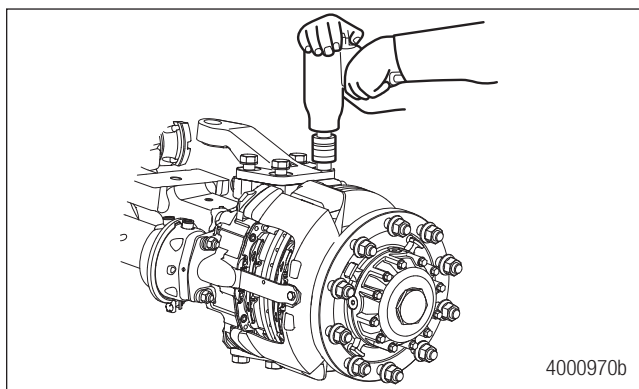

Figure 14.8
10. Now that both the lower and upper king pins are attached, tighten the capscrews on all king pins. See Section 17 Torque Specifications on page 63. Figure 14.8.